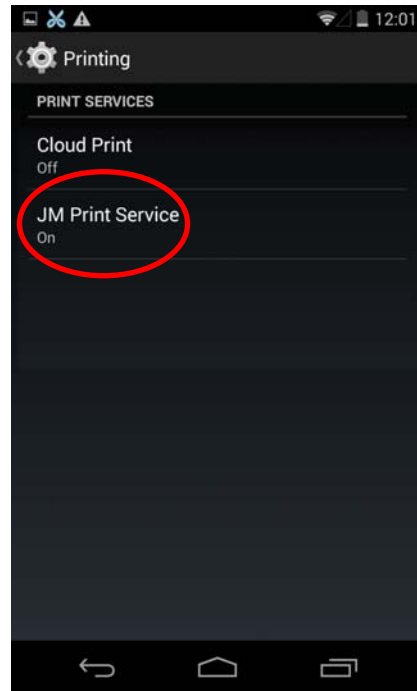

Figure 22
3.3 Find out “JM Print Service” in “Printing” interface and enter into, as shown in Figure 22.